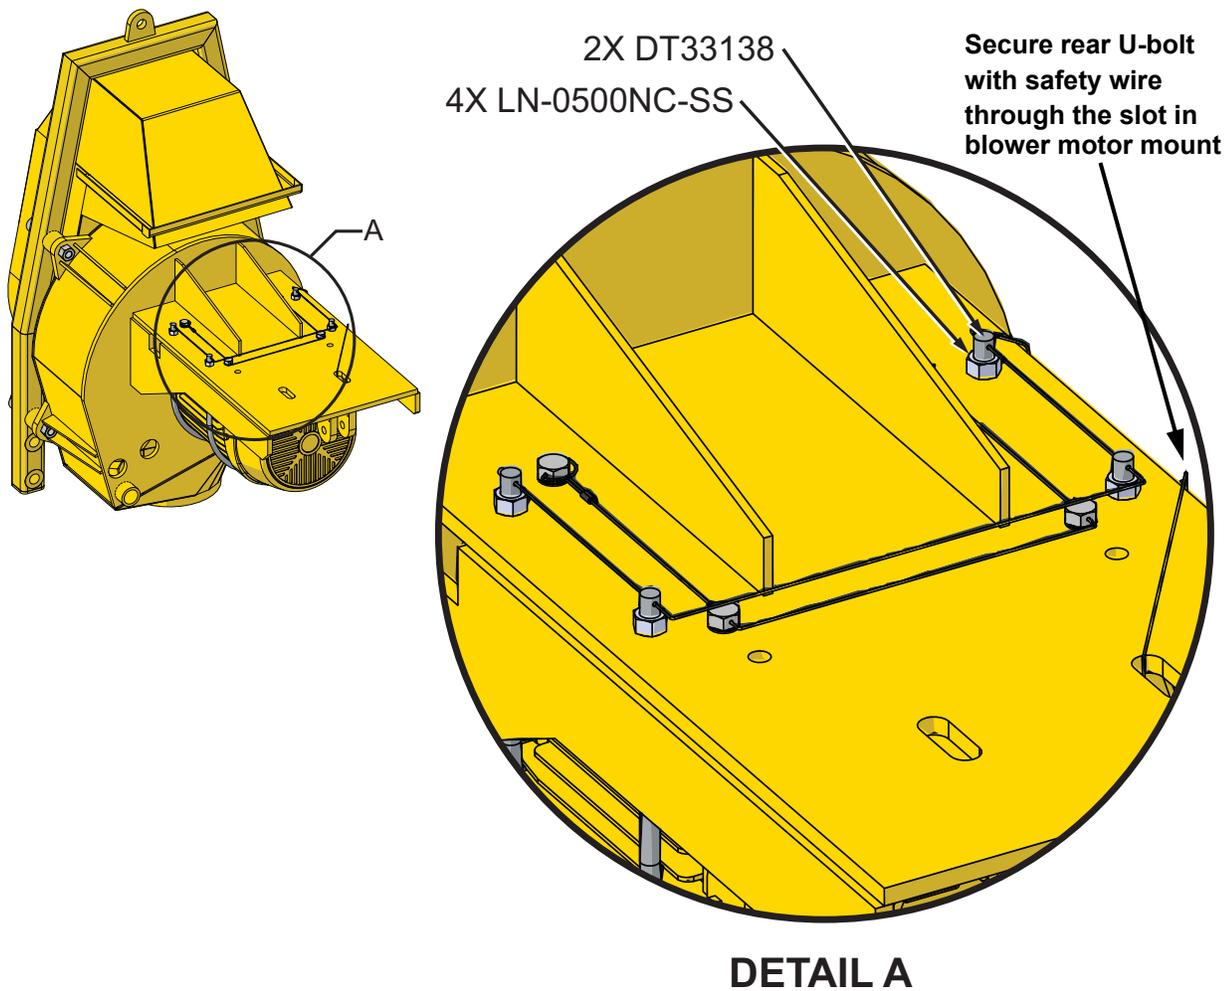

Figure 6: Install U-bolts
3. Clamp the blower motor by installing the two U-bolts (DT33138) firmly around the bottom of the blower motor and through holes drilled in blower support mount as shown on Figure 6.